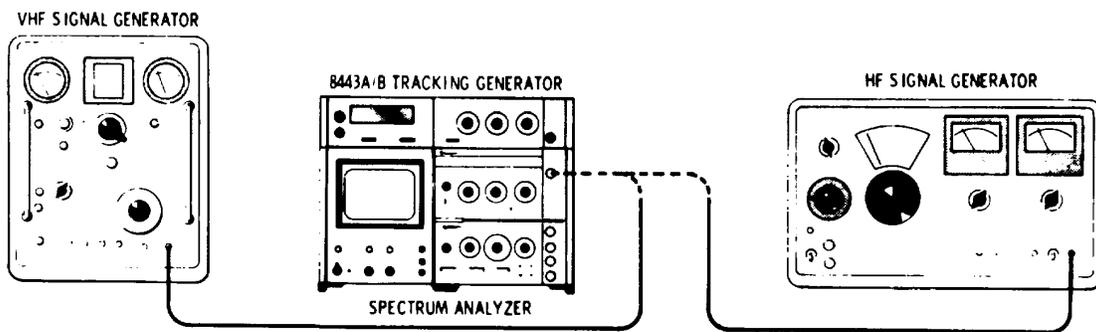

Figure 4-1. Frequency Range Test
1. Connect the equipment as shown in Figure 4-1 and set the control as follows: